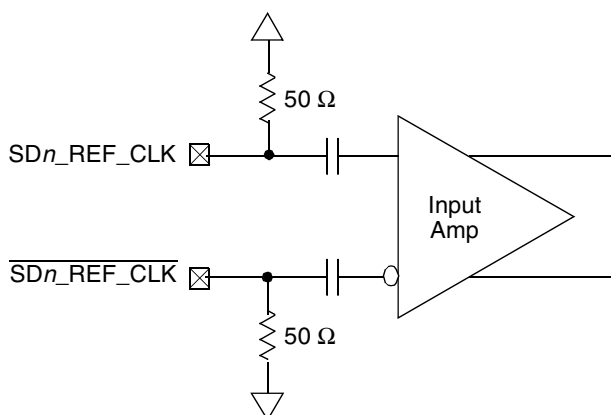

Figure 52. Receiver of SerDes Reference Clocks
Figure 52 shows a receiver reference diagram of the SerDes reference clocks.
- The SDn_REF_CLK and $\overline{\text{SDn_REF_CLK}}$ are internally AC-coupled differential inputs as shown in Figure 52. Each differential clock input (SDn_REF_CLK or $\overline{\text{SDn_REF_CLK}}$) has a 50 Ω termination to SGND_SRDSn (xc0vss) followed by on-chip AC-coupling.